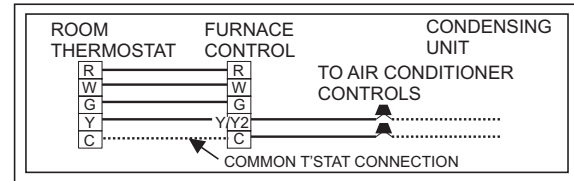

FIGURE 10: Single Stage Heat Thermostat Connections
1. Provide a power supply separate from all other circuits. Install overcurrent protection and disconnect switch per local/national electrical codes. The switch should be close to the unit for convenience in servicing. With the disconnect or fused switch in the OFF position, check all wiring against the unit wiring label. Refer to the wiring diagram shown in Figure 10.